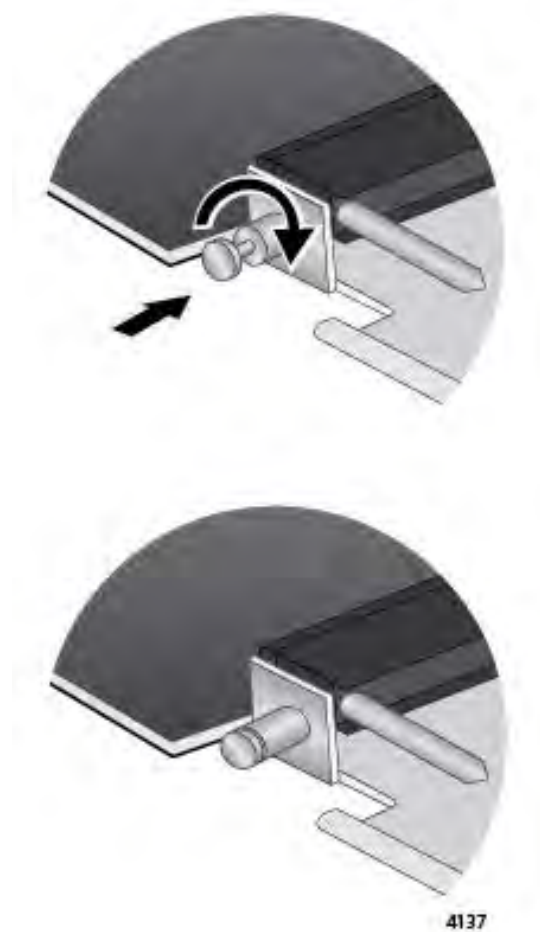

Figure 181. Releasing the Retaining Pin
11. Turn the retaining pin on the side of the card a quarter turn to release it. Refer to Figure 181 on page 290.